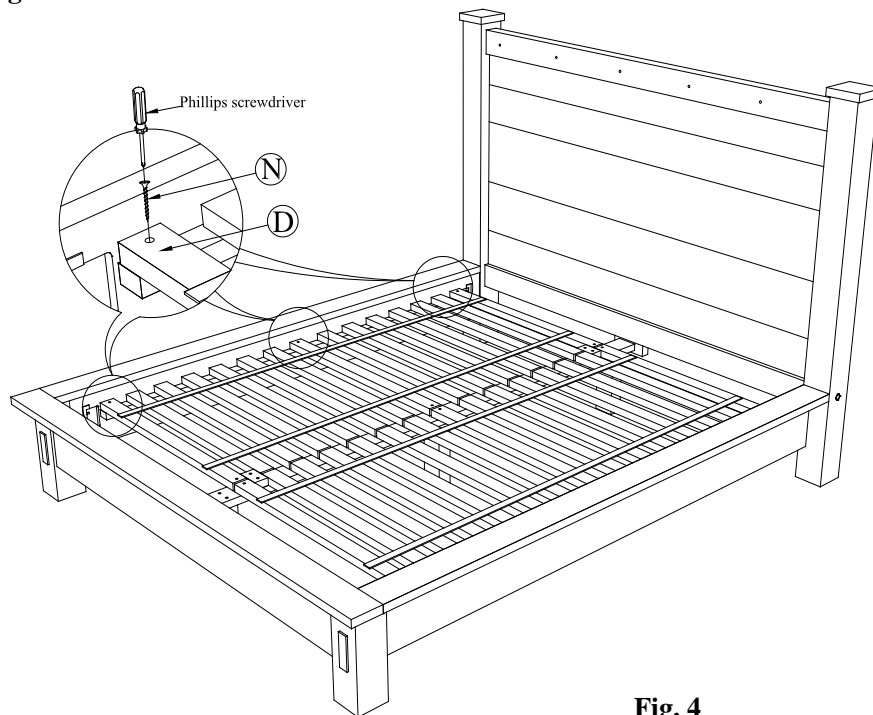

Fig. 4
5. Lay slat roll (D) in place over one side rail support and the assembled center rail. Attach by inserting the wood screws (N) through pre-drilled holes on the end slats of slat roll (D) and tightening with Phillips screwdriver (not included). Repeat for another slat roll (D). **Fig. 4**